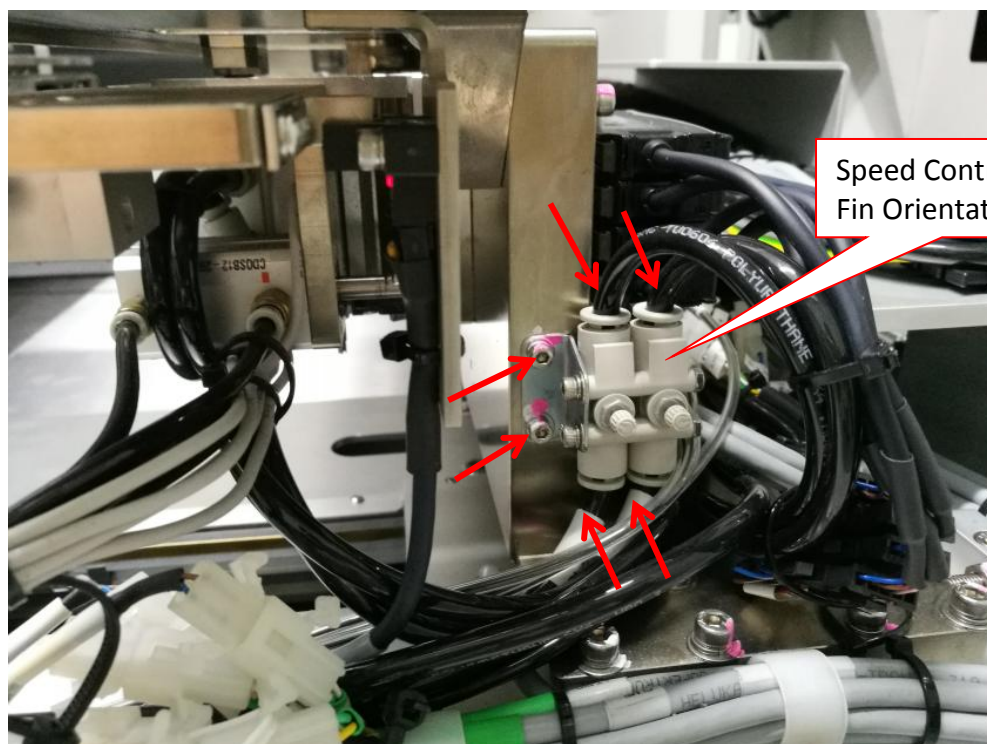

Figure 10 Speed Controller Fitting Assembly
19. Assemble Speed Controllers at Adj Rail. Plug 4x tubing accordingly by refer previous marking. Tighten-up 2 x screws as shown in Figure 10